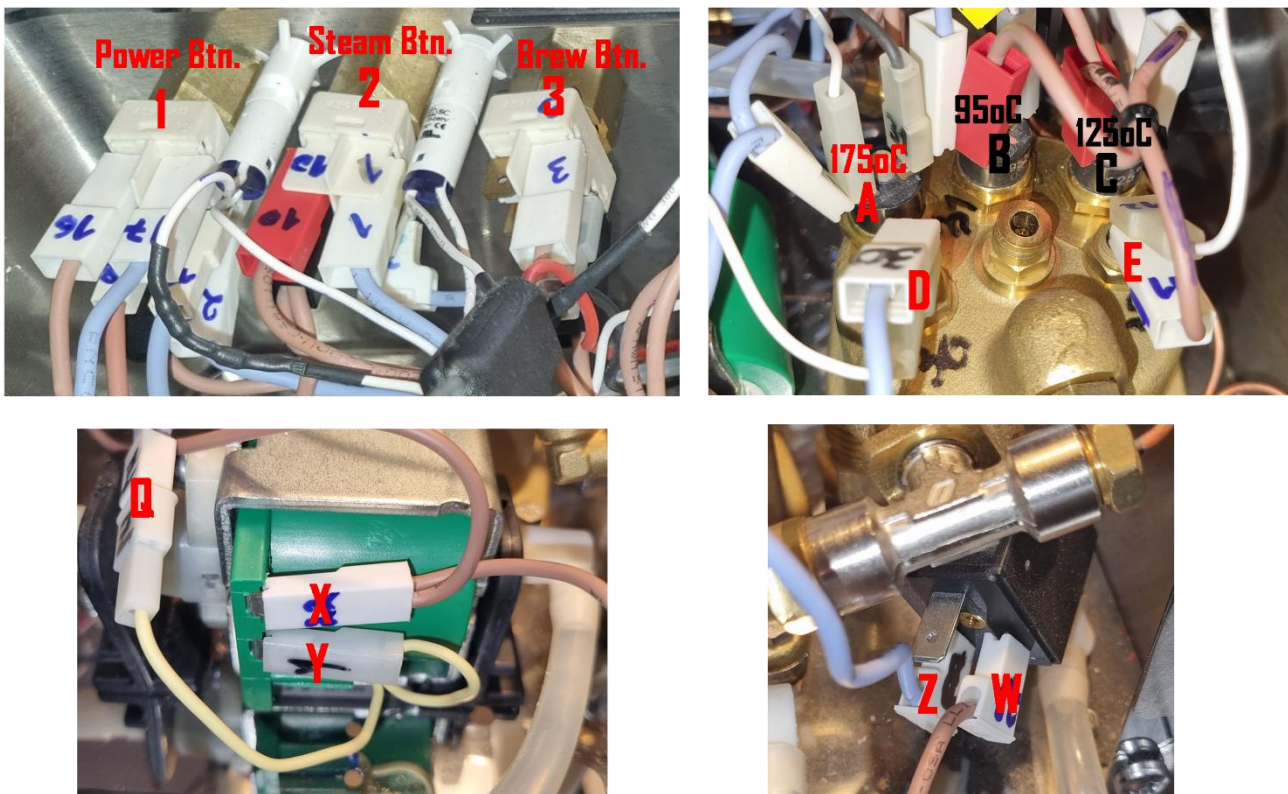

Fig. 2.1
- Starting from the buttons panel remove the wires from left to right using a straight screwdriver (looking from behind: from Power Btn. to Brew Btn., from 1 to 3) (fig. 2.1). All the plugs are marked with numbers and letters in fig. 2.1 . We will use those notations further.